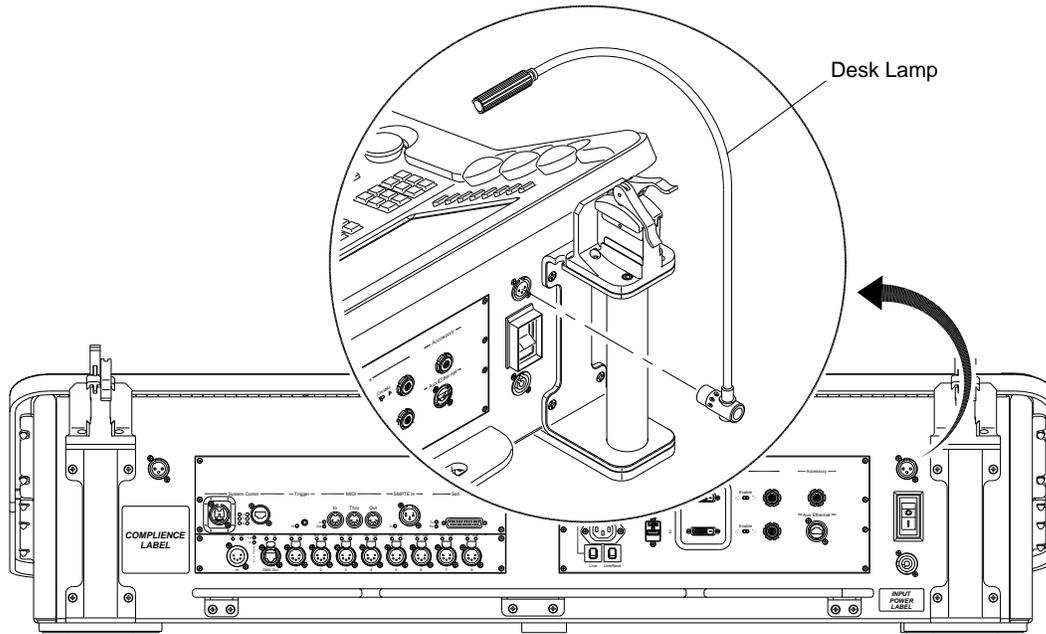

Figure 7: Installing Desk Lamps
Step 7. At rear of console, install desk lamps (Figure 7).